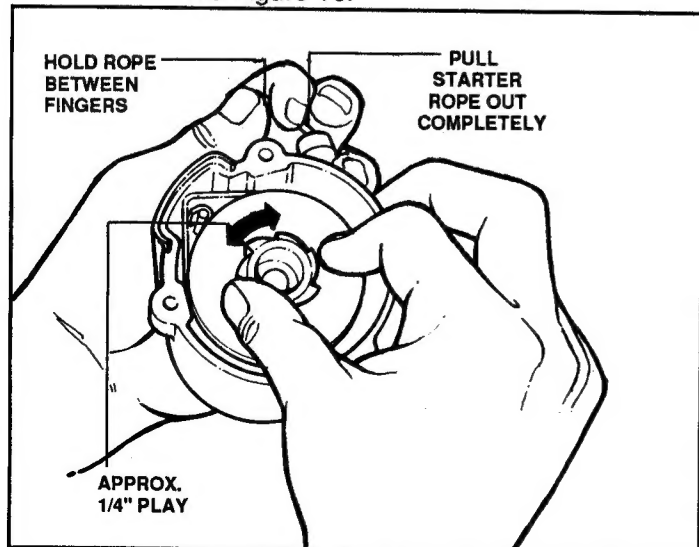

FIGURE 16
12. With the rope hooked in the starter drum notch, make several counter-clockwise rotations in order to place tension on the starter spring. There should be ample recoil strength to retract the handle back to the rope guide. Refer to Figure 16.
13. Finally, test recoil strength by pulling out all starter rope and holding between fingers as shown. There must be approximately 1/4 turn of play left in the starter drum after full extension of the rope. If there is not sufficient play, take one rotation on the drum in the reverse direction. See Figure 16.